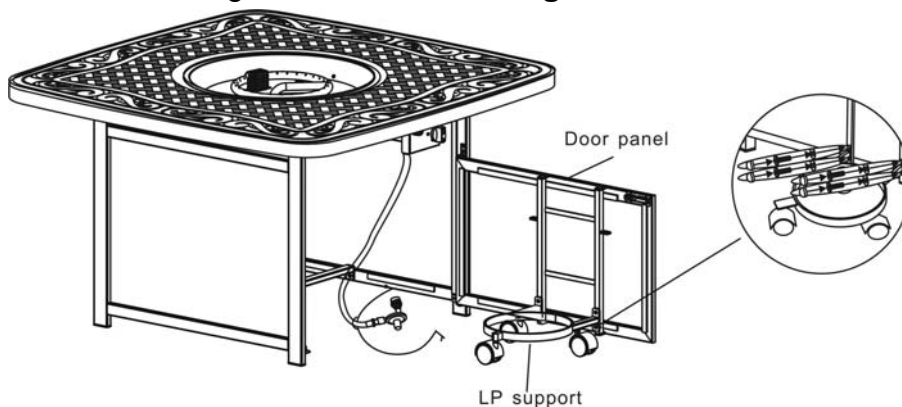

Figure 7
7. Attach the LP support to the door panel by using four 1/4"x20 mm bolts and Ø6.5x1.0 mm washers as shown in Figure 7. **Do not over tighten.**